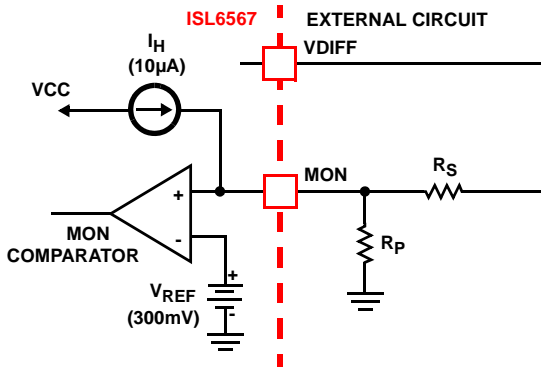

FIGURE 11. SETTING THE MONITORING THRESHOLD AND HYSTERESIS
While in external reference (ER) mode, the threshold sensitive MON pin can be used to control when the ISL6567 starts to monitor the output for PGOOD and OVP protection purposes. As shown in Figure 11, connect the MON pin to the voltage to be monitored via a resistor divider. An internal current source helps set a user-adjustable monitor threshold hysteresis. Choose resistor values according to desired hysteresis voltage, V_H , and desired rising threshold, V_T .